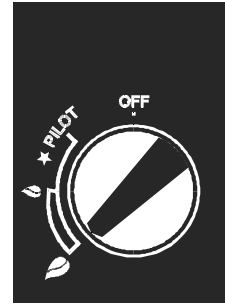

Figure 1 - Maximum Position
1. Turn the control knob fully anti-clockwise to the  (Large Flame) position (**Figure 1**).